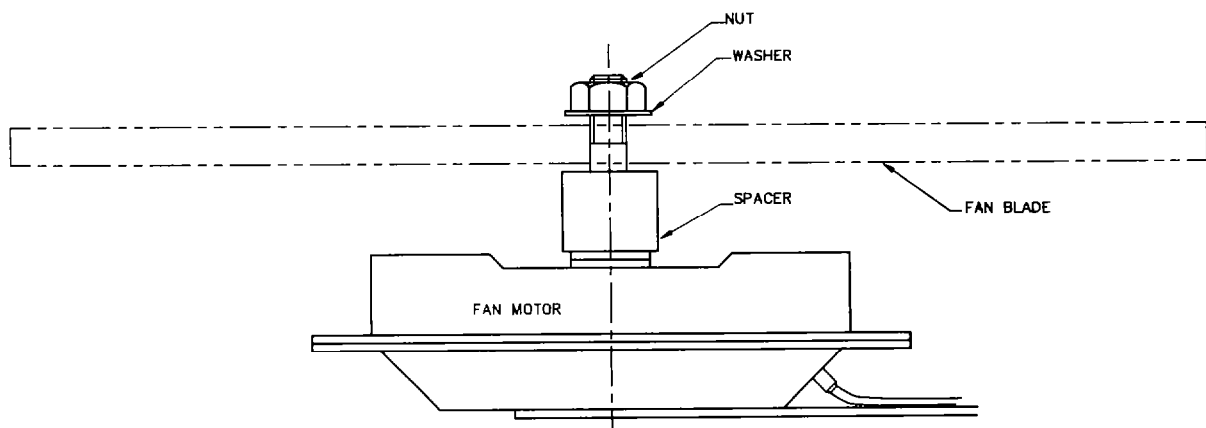

Figure 1 - Fan Blade Location
- f. Locate the fan blade on to the motor shaft (making sure the shaft spacer is located before the fan blade) see Figure 1. Fit the flat washer and nut and tighten to 9 N.m.
- g. Locate the fan blade on to the motor shaft (making sure the shaft spacer is located before the fan blade) see Figure 1. Fit the flat washer and nut and tighten to 9 N.m.